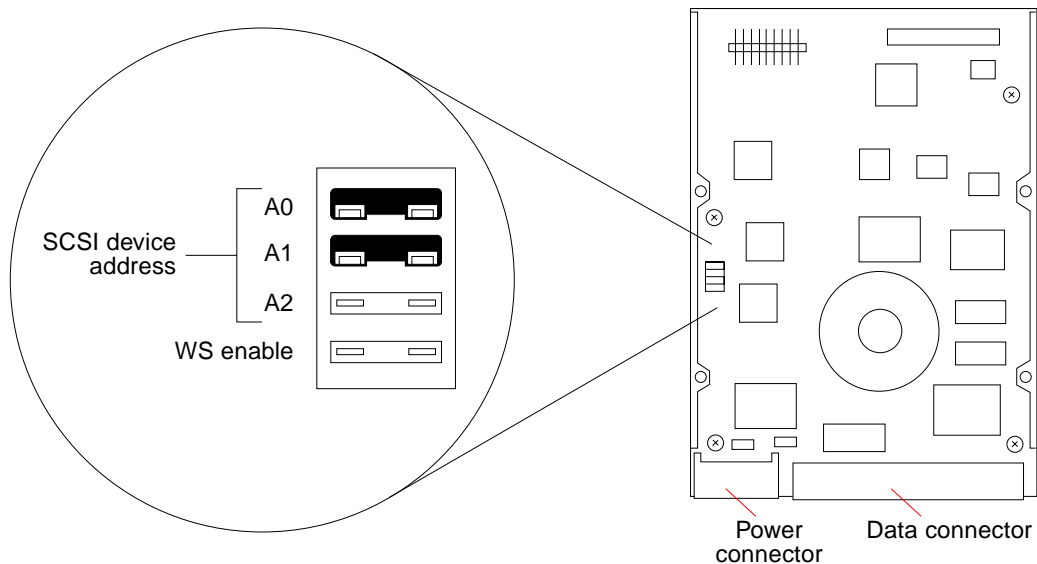
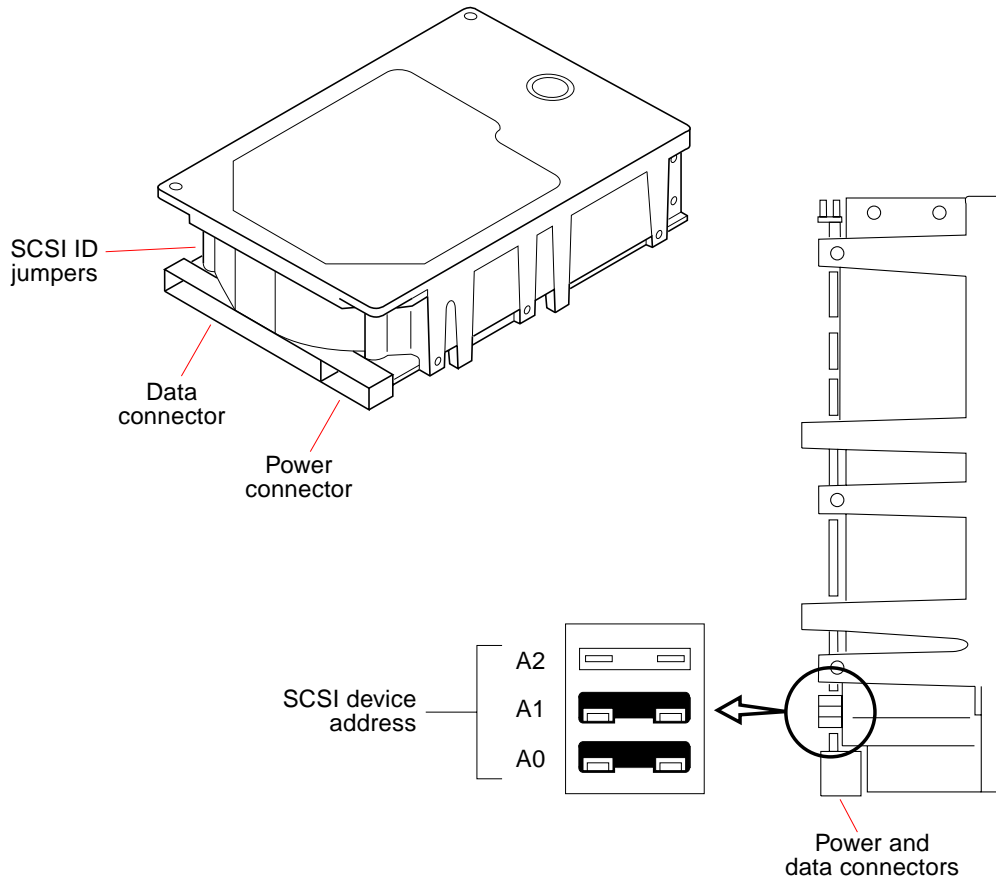

FIGURE 9-2 Jumper Settings for 207-Mbyte Drive With Jumpers on the Left-Hand Side
FIGURE 9-7 Jumper Settings for 1.0-Gbyte Drive (Part 370-1546)
The location of the SCSI ID jumpers depends on the type of drive shipped with your system. FIGURE 9-2 through FIGURE 9-7 show the jumper locations and settings for the various types of replacement drives. Note that only one of these illustrations applies to your hard drive.
- a. Determine which illustration among FIGURE 9-2 through FIGURE 9-7 matches your drive.**